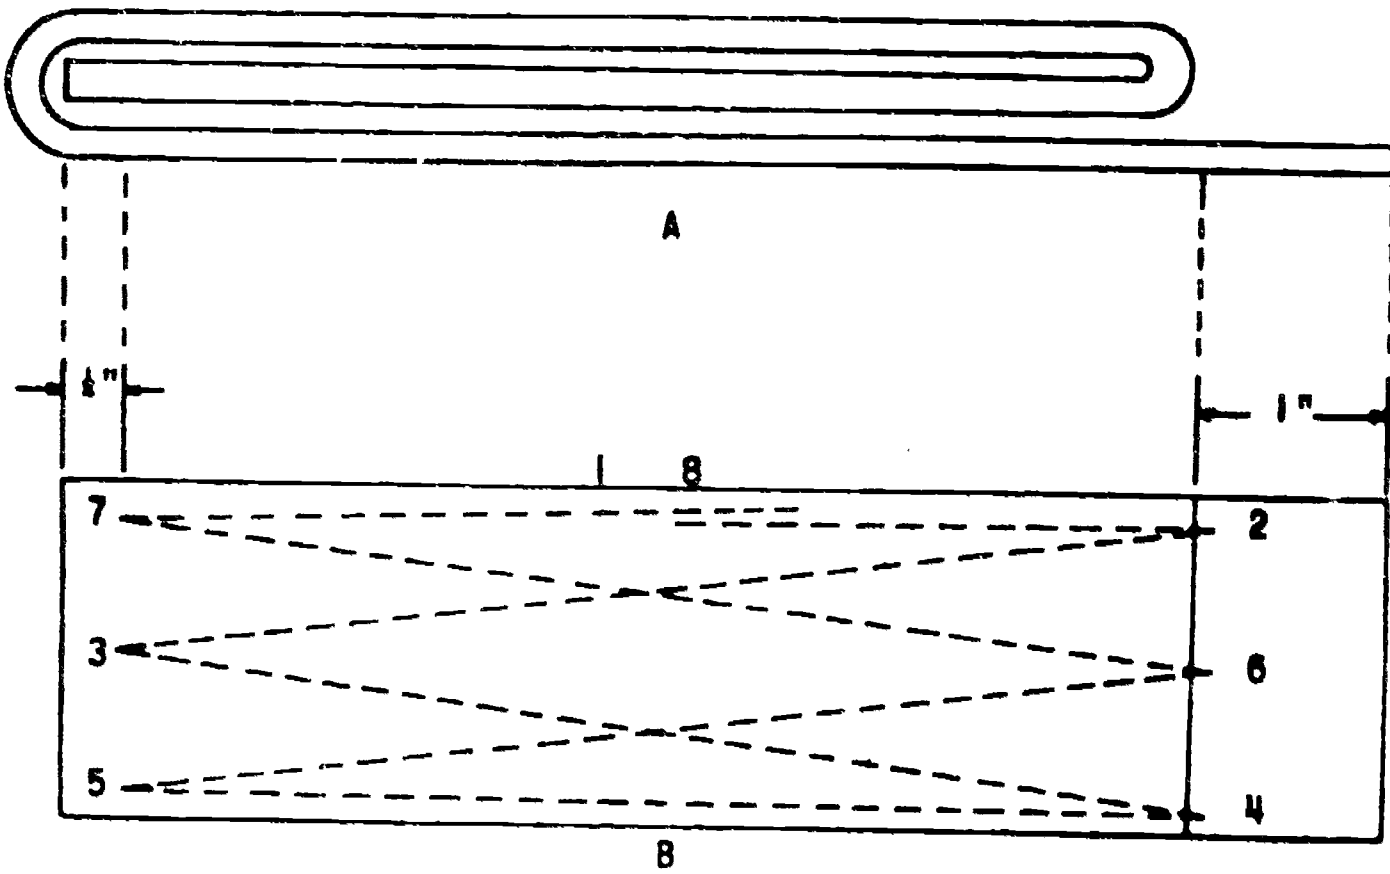

Figure 8. Cross Stitch Pattern.
2. Fold the webbing into three plies as indicated at A, figure 8.
3. Sew the plies together, following the stitch pattern as indicated at B, figure 8, sewing from point 1 through 8. Overstitch one time at points 2, 6, and 4. The completed stitch pattern should be stitched at least 1/2".